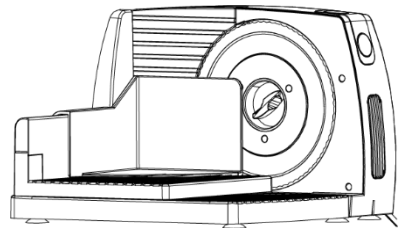

fig.4
5. The food slicer is now assembled for use (fig.4)